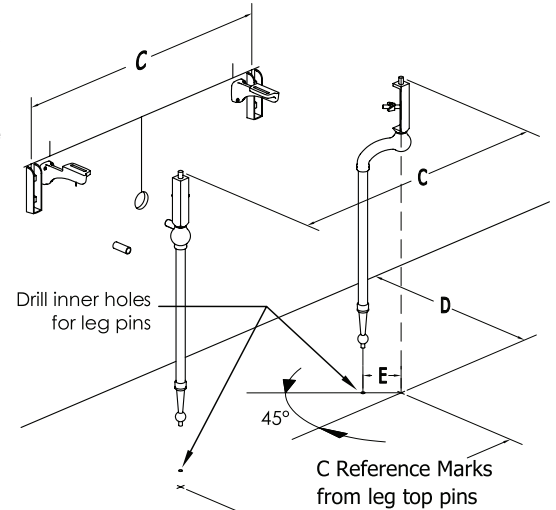

Figure 6 - Step 4
See Figure 6 & Top View on Pg 2. Dimension C & D will locate the positions of the leg top pin holes on the underside of the marble top. Mark these pin locations as reference marks on the floor.
Step 4: Drill 2 holes in the floor for the pins on the legs, holding Dimension E. See Figure 6 & Top View on Pg 2. Dimension C & D will locate the positions of the leg top pin holes on the underside of the marble top. Mark these pin locations as reference marks on the floor.